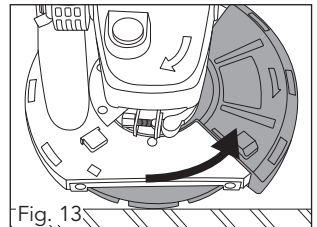

Fig. 13
The open area of the safety guard (9) (fig. 13) must face the direction of the wall.